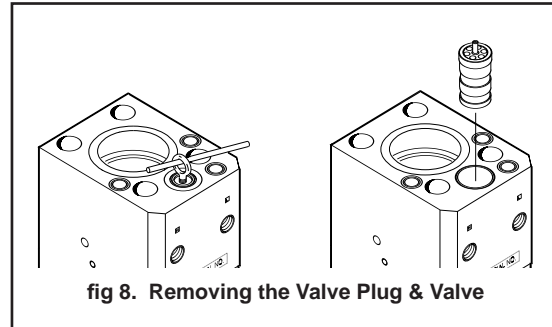

fig 8. Removing the Valve Plug & Valve
1. Pick out the seals (19 & 20) located on top of the valve plug (18) and discard them.
2. Install a lifting eye into the top of the valve plug. Using a pry bar and scrap metal material to protect the cylinder face, remove the valve plug. (See figure 8)
3. Lift out the valve (17) and valve sleeve (67).